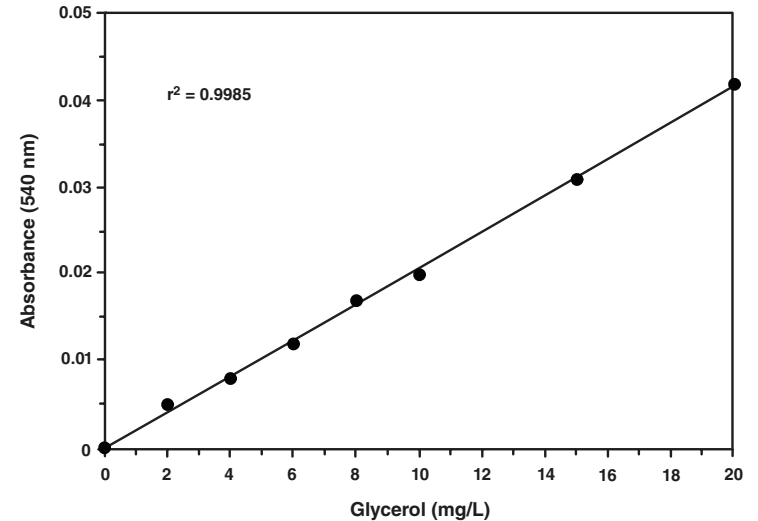

Figure 3. Glycerol standard curve
3. Graph the corrected absorbance values (from step 2 above) of each standard as a function of the final glycerol concentration (mg/L). (see Table 1, page 11) A typical glycerol standard curve is shown in Figure 3, on page 15.